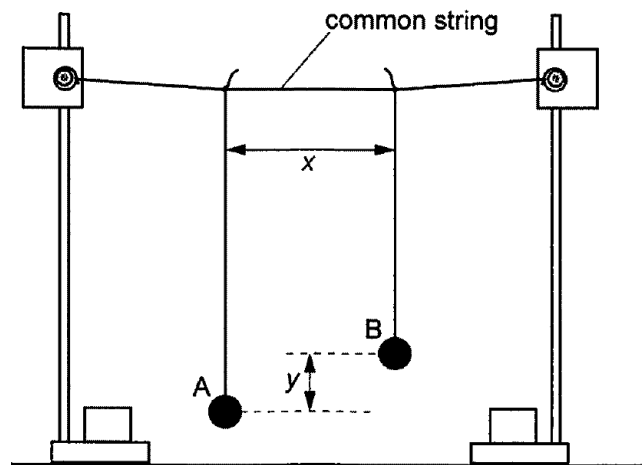

Figure 3.3
- (e) The distance y is the difference in length between the two pendulums, as shown in Figure 3.3 for a chosen value of x .